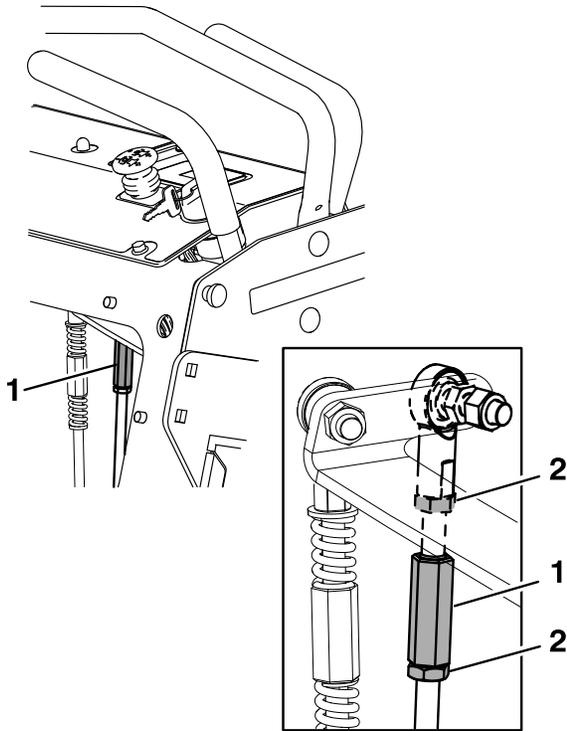

Figure 33
2. Check that controls are in neutral. Adjust each side via the front control link (see Figure 33).